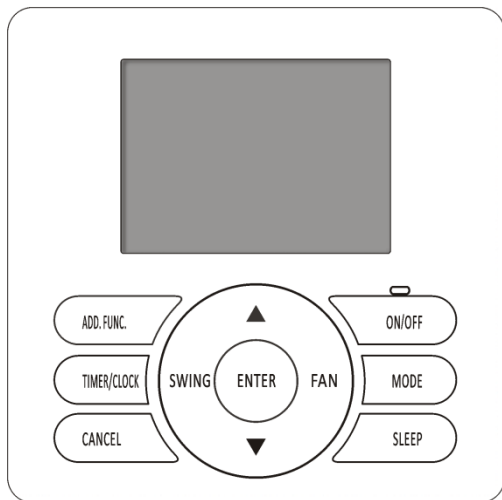
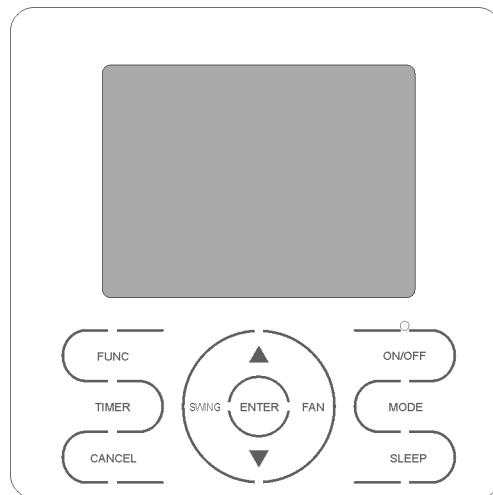

Fig.2 YXE-C01U/ YXE-C02U(E)*
Fig.3 YXE-D01U(E)*
Fig.2 short wiring
Fig.3 output line
Pins of the OUT INPUT CN16 socket shown in the electrical wiring diagram of Fig 1 are tacitly approved to be in short circuit state under the factory state (an external short circuit plug shown as Figure 2).
- 1) When using the room card control, the user cuts off the short wire shown in Figure 2 and connects the red lines to the control switch (supplied by user), and the connecting wire should be 22AWG or above specification. The switch is closed under normal conditions and off under abnormal conditions.
- 2) When using the fire protection , the user cuts off the short wire shown in Figure 2 and connects the White lines to the control switch (supplied by user), and the connecting wire should be 22AWG or above specification. The switch is closed under normal conditions and off under abnormal conditions.
- 3) When using the ON/OFF function, the user cuts off the short wire shown in Figure 2 and connects the White lines the ON/OFF control switch (supplied by user), and the connecting wire should be 22AWG or above specification. In normal conditions, the machine starts once the switch is closed and the machine shuts down once the switch is off.
Fig.2 short wiring (old)
Fig.3 main control board
Fig.2 short wiring (new)
3 pins of the OUT INPUT CN16 socket shown in the electrical wiring diagram of Figure 1 are tacitly approved to be in short circuit state under the factory state (an external short circuit plug shown as Figure 2), and the OUT INPUT CN16 socket of main control board is shown as Figure 3.
- 4) When using the room card control or fire protection , the user cuts off the short wire shown in Figure 2 and connects the red line and the black line to the control switch (supplied by user), and the connecting wire should be 22AWG or above specification. The switch is closed under normal conditions and off under abnormal conditions.
- 5) When using the ON/OFF function, the user cuts off the short wire shown in Figure 2 and connects the black line and the white line to the ON/OFF control switch (supplied by user), and the connecting wire should be 22AWG or above specification. In normal conditions, the machine starts once the switch is closed and the machine shuts down once the switch is off.